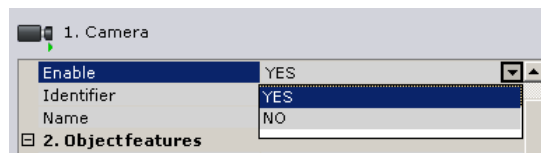

Fig. 6.4—3 Enabling a video camera
3. Assign the video camera a name which will be displayed in the objects tree and in the viewing tile in the **Name** field (Fig. 6.4—4).